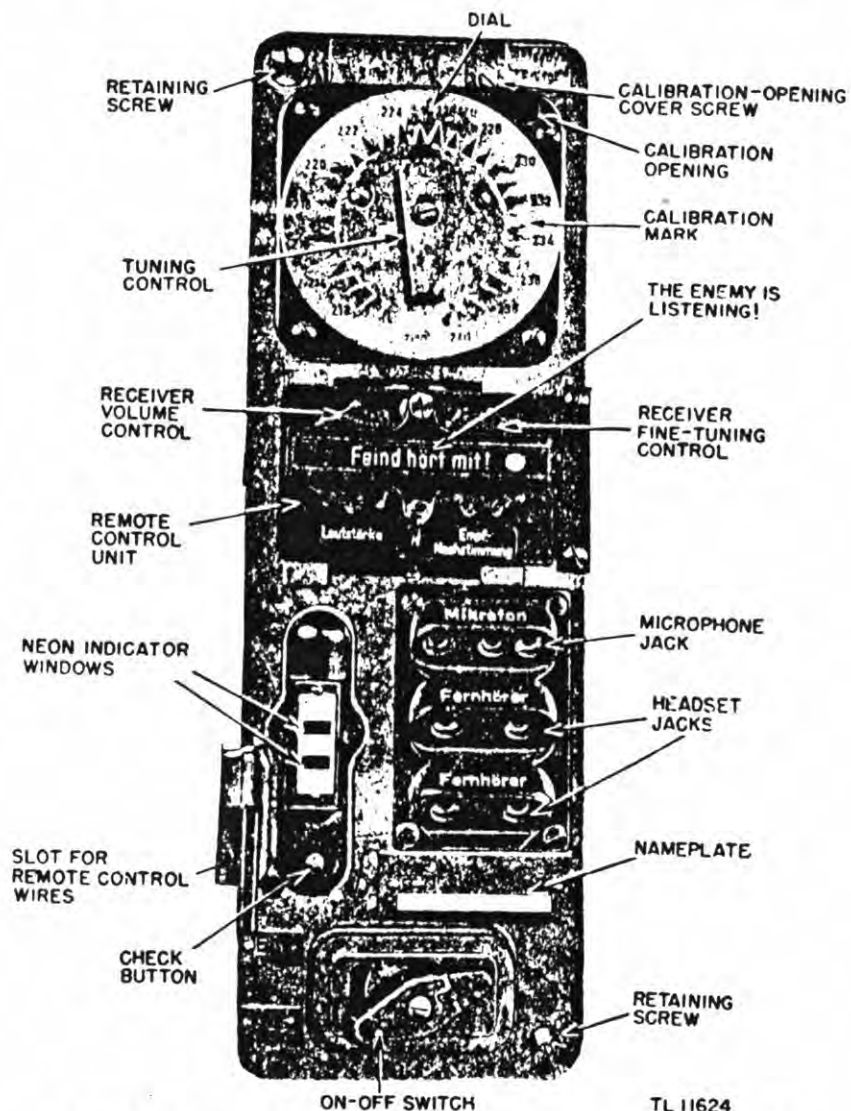

Figure 3. German radio set Feldfu. b, front view, cover removed.
3. **CONTROLS.** The more important controls on the front panel and a brief statement of their functions are listed below (fig. 3).
circuit, they will also serve to check the vibrator output. To replace the vibrator, loosen the two red-ringed retaining screws (figs. 3 and 4), and slide the chassis out of the case. The vibrator plugs in, and has a wire handle attached for pulling.
(6) Plug the throat microphone into the jack marked **Mikrofon** (microphone) and a headset into one of the jacks marked **Fernhörer** (headphones). Any high-impedance headset or single-button carbon microphone may be used if fitted with the proper plug.
(7) Place the microphone, headset, and remote control cords through the slot provided for them (fig. 3).
(8) Set the **Ein Aus** (on off) switch to **Ein** (on).
(9) Press the small check button just below the neon indicator windows labelled **Spannung normal** (voltage normal) and **Sammler bereitst** (battery low). If both the indicators glow, the battery is well charged. If only the lower indicator glows, the battery is weak and will only operate the set for approximately $\frac{1}{2}$ hour before recharging is necessary. If neither indicator glows, either the battery is discharged or the vibrator is defective.
a. Portable. After the set has been prepared for operation as directed in paragraph 4, proceed as follows (refer to fig. 3):
(1) Set the **Frequenz-Einstellung** (tuning control) to the desired frequency channel.
(2) Set the microphone switch to **E.** (receive) position.
(3) Replace the front cover, and set the **Ein Aus** (on off) switch to **Ein** (on) by lifting the hinged tip of the knob and turning it to the right.
(4) Turn the **Lautstärke** (volume) control to the right until a rushing sound is heard in the headset, or until the desired signal is heard.
(5) Adjust the control marked **Empf.-Nachstimmung** (receiver fine tuning) for maximum volume.
(6) To transmit, set the microphone switch to the **S.** (transmit) position and start speaking.
b. Uncover the calibration opening by turning the calibration-opening cover screw to the left (fig. 3). The adjustment of this trimmer is possible only with the use of another set.
circuit, they will also serve to check the vibrator output. To replace the vibrator, loosen the two red-ringed retaining screws (figs. 3 and 5), and slide the chassis out of the case. The vibrator plugs in, and has a wire handle attached for pulling.